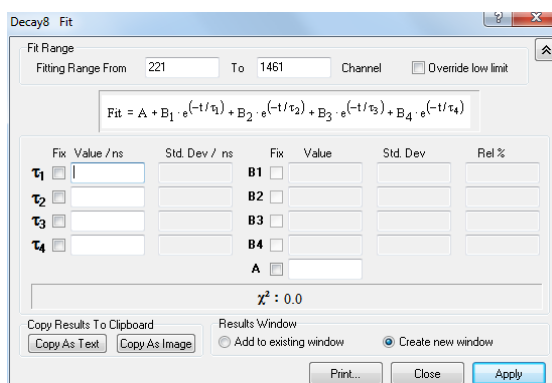

Figure 7-4: Tail fit dialogue box
4. Select **Data >> Exp.Tail Fit**. This will open up a the dialogue box as shown in Figure 7-4. The fitting range shown on top of the dialogue box is inherited from the zoom in step 3 above, provided the zoomed region starts at, or beyond, the peak of the decay. If the zoomed region starts before the peak of the curve, then the **Fitting Range From** value will automatically be set to the peak of the curve. Remember, the peak is not necessarily the most appropriate start of the fitting range. The fit range for a tail fit should start when the IRF is completely finished.